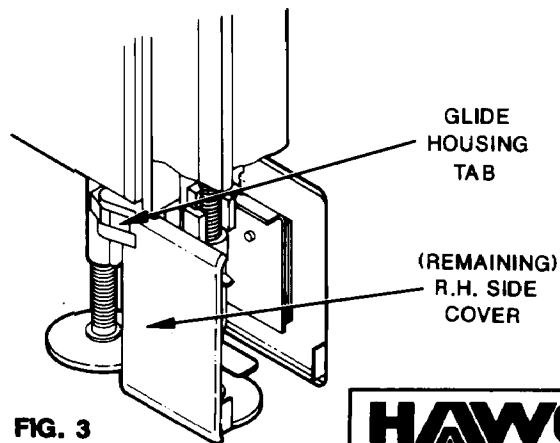

FIG. 3
4. Install remaining side cover to end cap (Fig. 3) and align side cover with glide housing tab. Secure to plastic locking tape and reinstall raceway cover on panel.